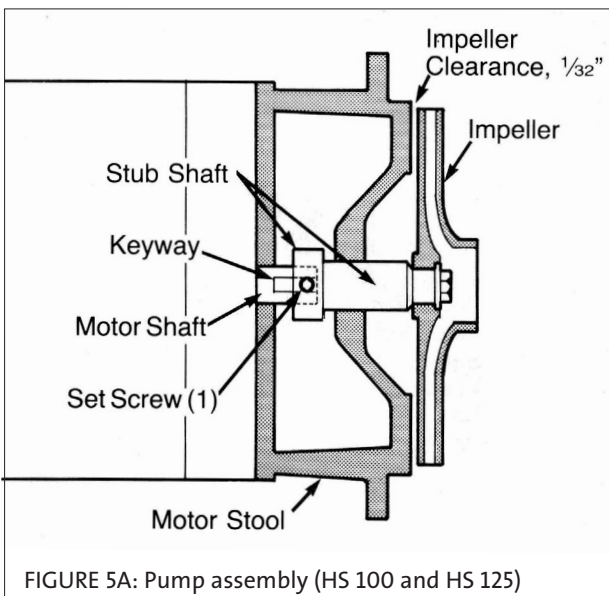

FIGURE 5A: Pump assembly (HS 100 and HS 125)
4. Using the appropriate edge of impeller spacing tool SV00201 (see Table C), position the impeller at the correct axial location and tighten allen shaft set screw(s) into the motor shaft's keyway (see Figures 5A, B & C).